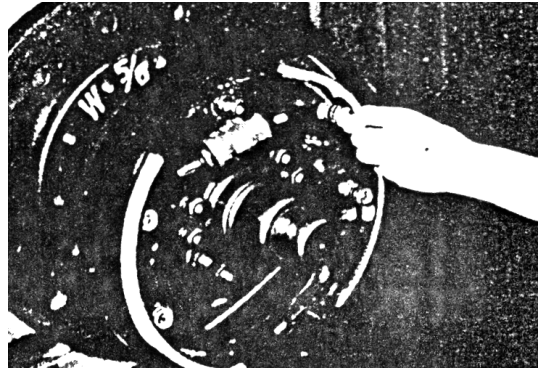

Fig. 8-23
(5) Install the brake cable assembly on the backing plate with and E-retainer.
(6) Install shoes on the backing plate with hold-down springs. However, hold-down spring at the secondary shoe lower part should be fitted only after the spring seat and adjusting lever are properly mounted. Make sure the spring seat settles snugly in the shoe and the adjusting lever holes. (See Fig.8-23)